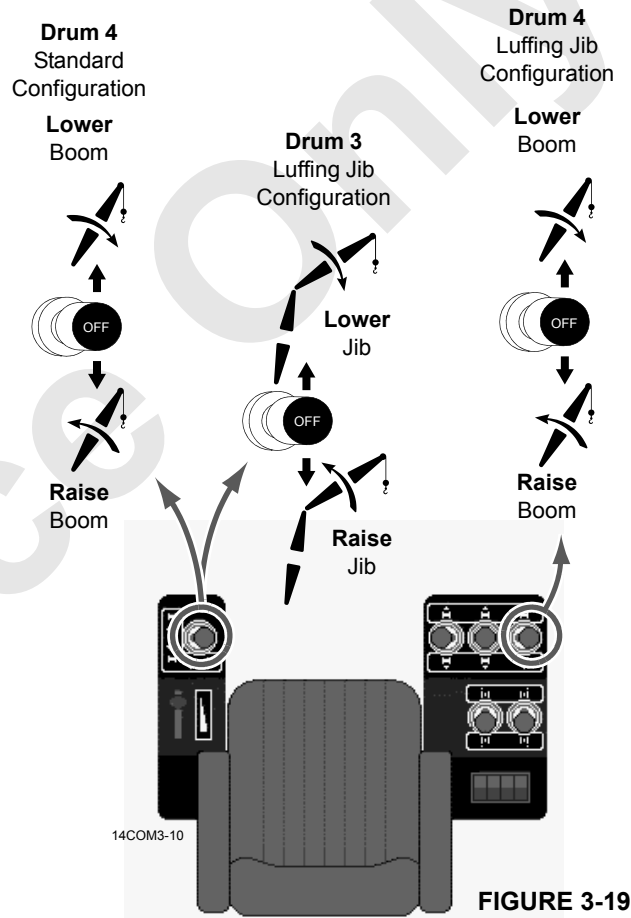

FIGURE 3-19
See Figure 3-19 for the boom hoist operation.
4. See Figure 3-19. Push boom hoist handle forward from off to lower boom or pull handle back from off to raise boom.
See Figure 3-19 for the luffing hoist operation